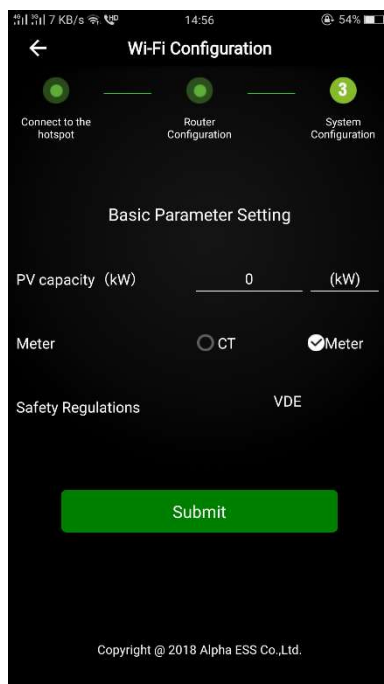
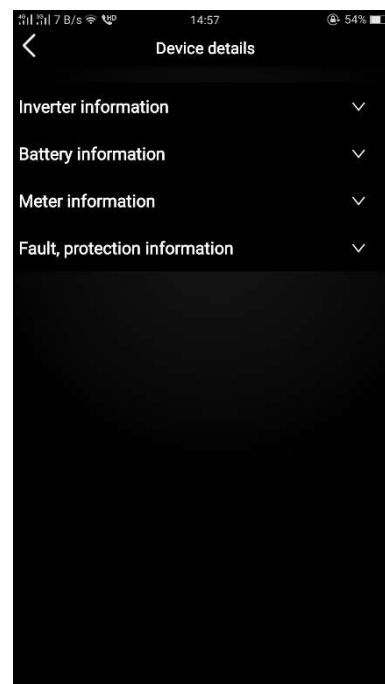

Figure 4.10 Basic Parameter Setting
Figure 4.11 Equipment Details
Step 5: set the basic parameters, and you can see the details of equipment, click "submit" button, as shown in Figure 4.10 and Figure 4.11.